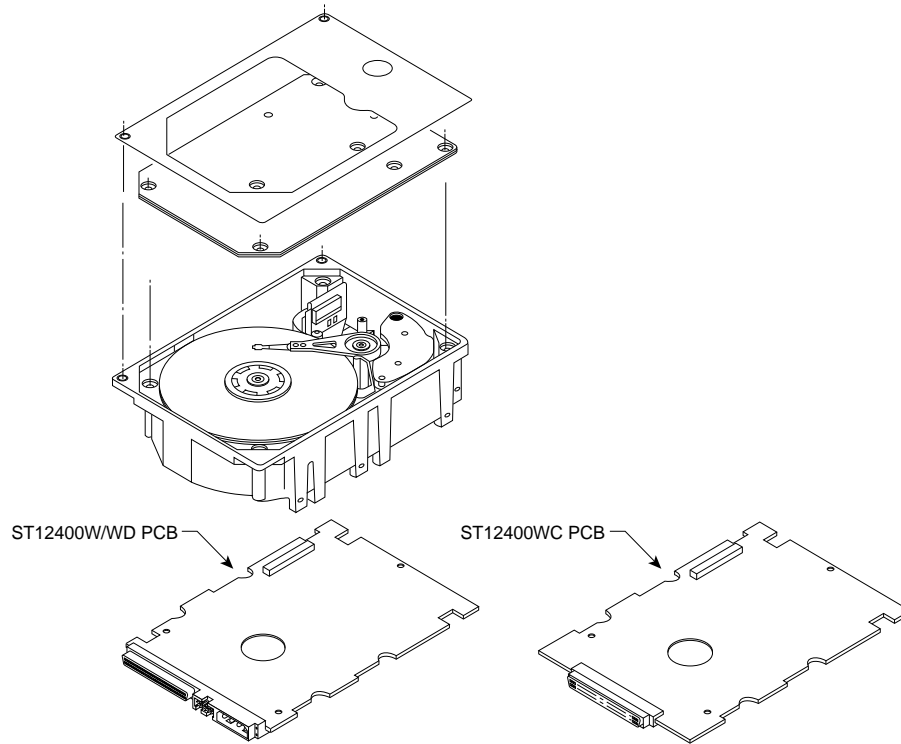

Figure 3.0-1. Hawk 2 family (Wide bus) drive
Refer to Figure 3.0-1 for an exploded view of the drive. NEVER disassemble the Head/Disc Assembly (HDA). This exploded view is for information only. Do not attempt to service items in the sealed environmental enclosure (heads, media, actuator, etc.) as this requires special facilities. The drive contains no parts replaceable by the user. The drive warranty is voided if the HDA is opened.
- Front panel (green LED) - See Figure 3.0-1
- Front Panel Kit (with green LED) - See Figure 3.0-1